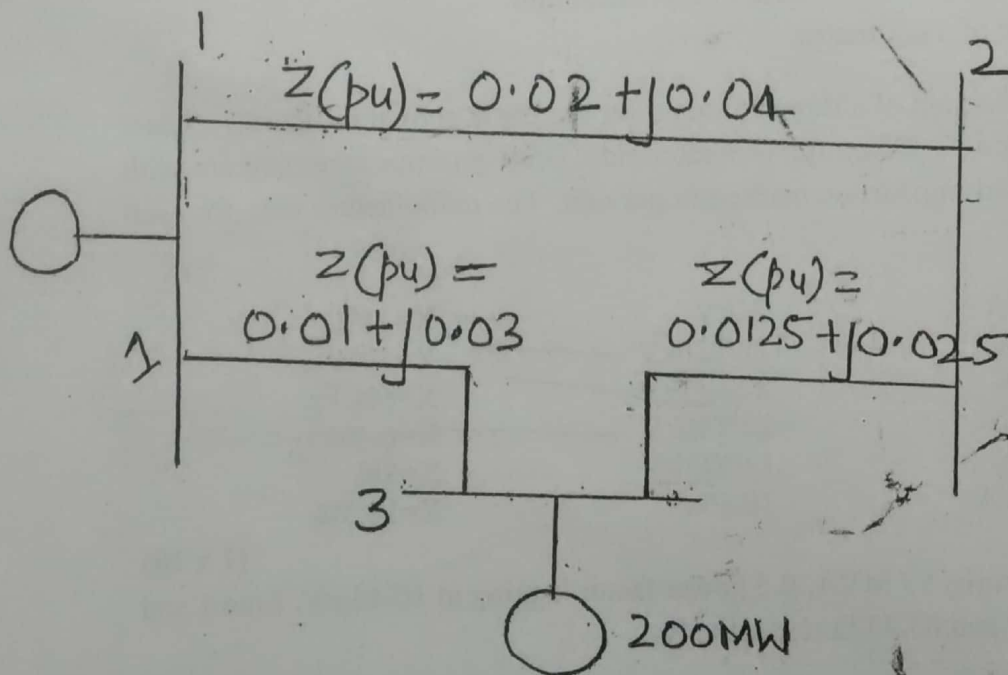

Figure 2
- II. For the Power system shown in Figure 2. Form Y_{BUS} Matrix.